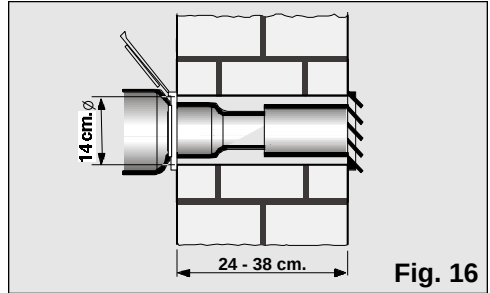

Fig. 16
- To expel hot air through the wall, it is necessary to make an 14-cm diameter hole in the wall and fit the wall grommet, Fig. 16.